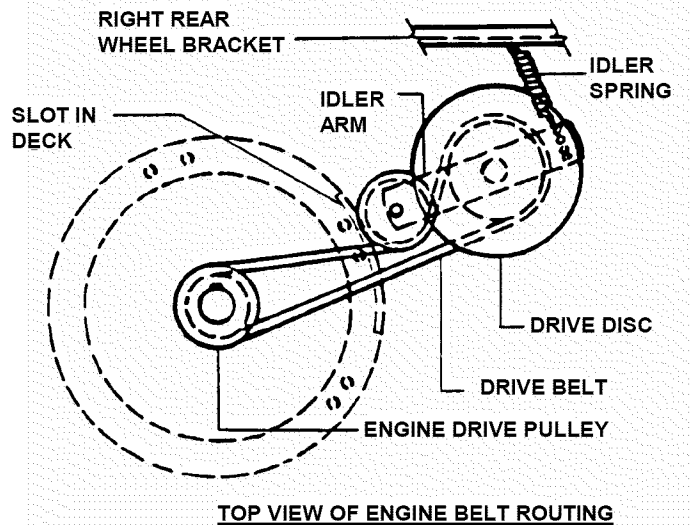

FIGURE 4.15
2. Unhook the idler spring from the right rear wheel bracket. See Figures 4.15 and 4.16.